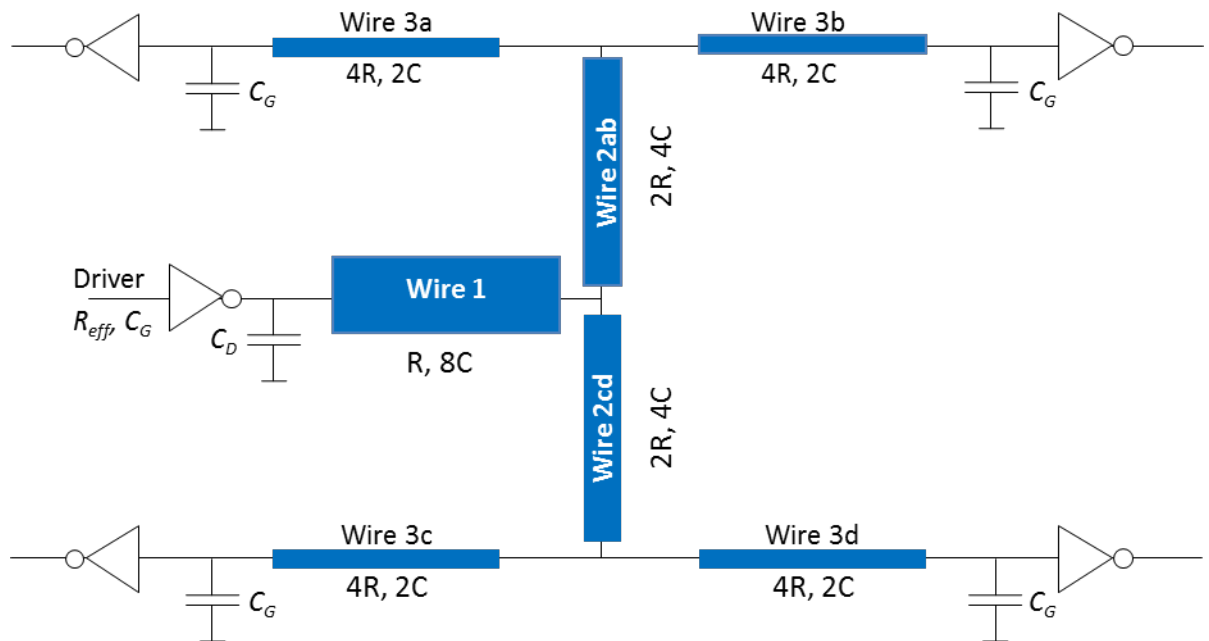

Figure 5. A driver inverter loaded by four identical receiver inverters across an H-tree wire interconnect.
5. Wire delay In Figure 5 you see a driver inverter loaded by four identical receiver inverters across an H-tree wire interconnect.
- Calculate the FO4 delay for the driver inverter when loaded as shown in Figure 5. (5 p)